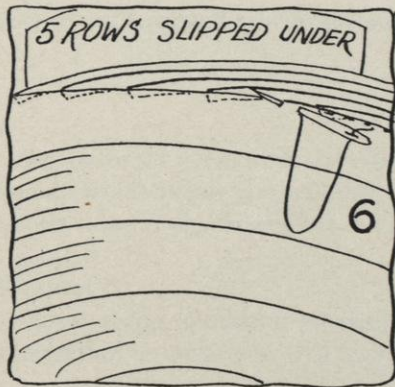

FIG. 6.
a. When the crown is the desired height, run the straw under the last row, graduating it to nothing, by slipping the unfinished row (the fifth) under the finished edge of the last row; then the fourth, third, and so on, under each time, until the first row is entirely hidden (see Figure 6).
- b. Pin the crown over the headsize of the brim matching pin to pin (see Figure 6 *A* of Job 39, page 157).